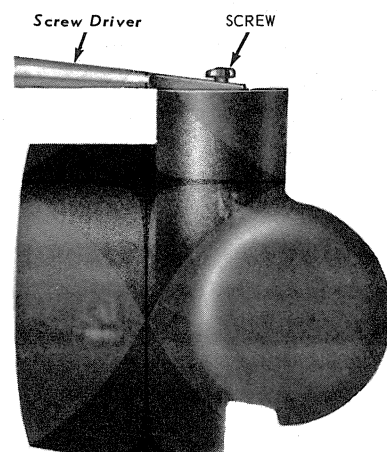

FIG. 19—Removing Tube Seat and Check Valve—Typical
6. With the use of a 6-32 self-tapping screw, pry the tube seats out of the front and rear brake outlet bores in the cylinder body (Fig. 19). Discard the tube seats and the check valves.
6. With the use of a 6-32 self-tapping screw, pry the tube seats out of the front (primary) and rear (secondary) brake system outlet bores in the cylinder body (Fig. 19). Discard the tube seats and the check valves.